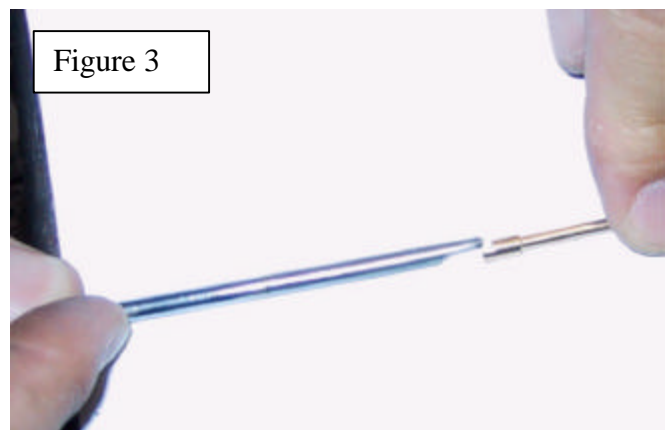

Figure 3
- b. Prepare a special screwdriver which can meet the jet slotted face while entering the jet' s seat (see figure 3);